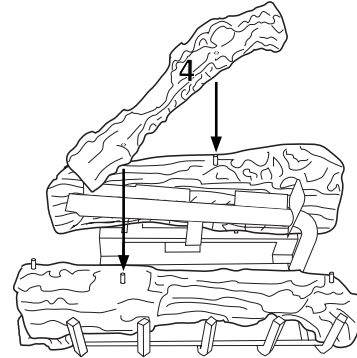

Figure 26 - Installing Log #4, Model CD42M-A
4. Place log #4 (crossover log) onto pins from both logs #2 and #3 (see Figure 26).